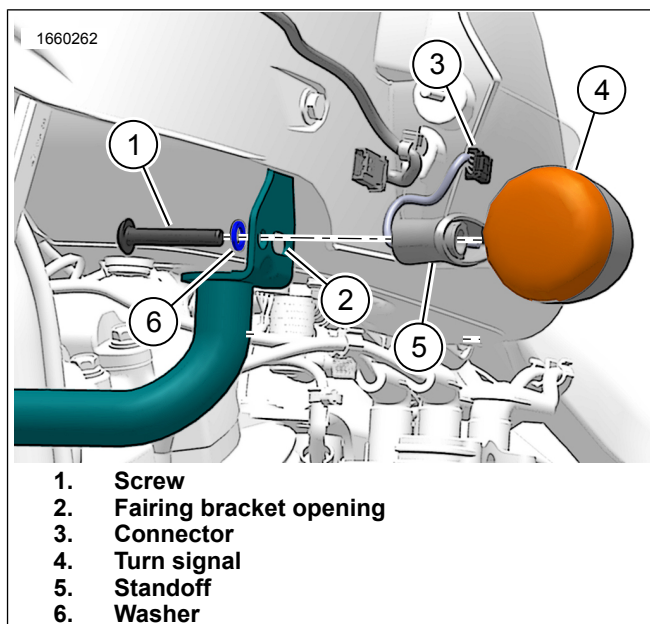

Figure 2. Front Turn Signal Assembly
- a. See Figure 2. Disconnect connector (3).
- b. Remove screw (1) and washer (6).
- c. Discard washer (6).
- d. Remove turn signal (4) and standoff (5).